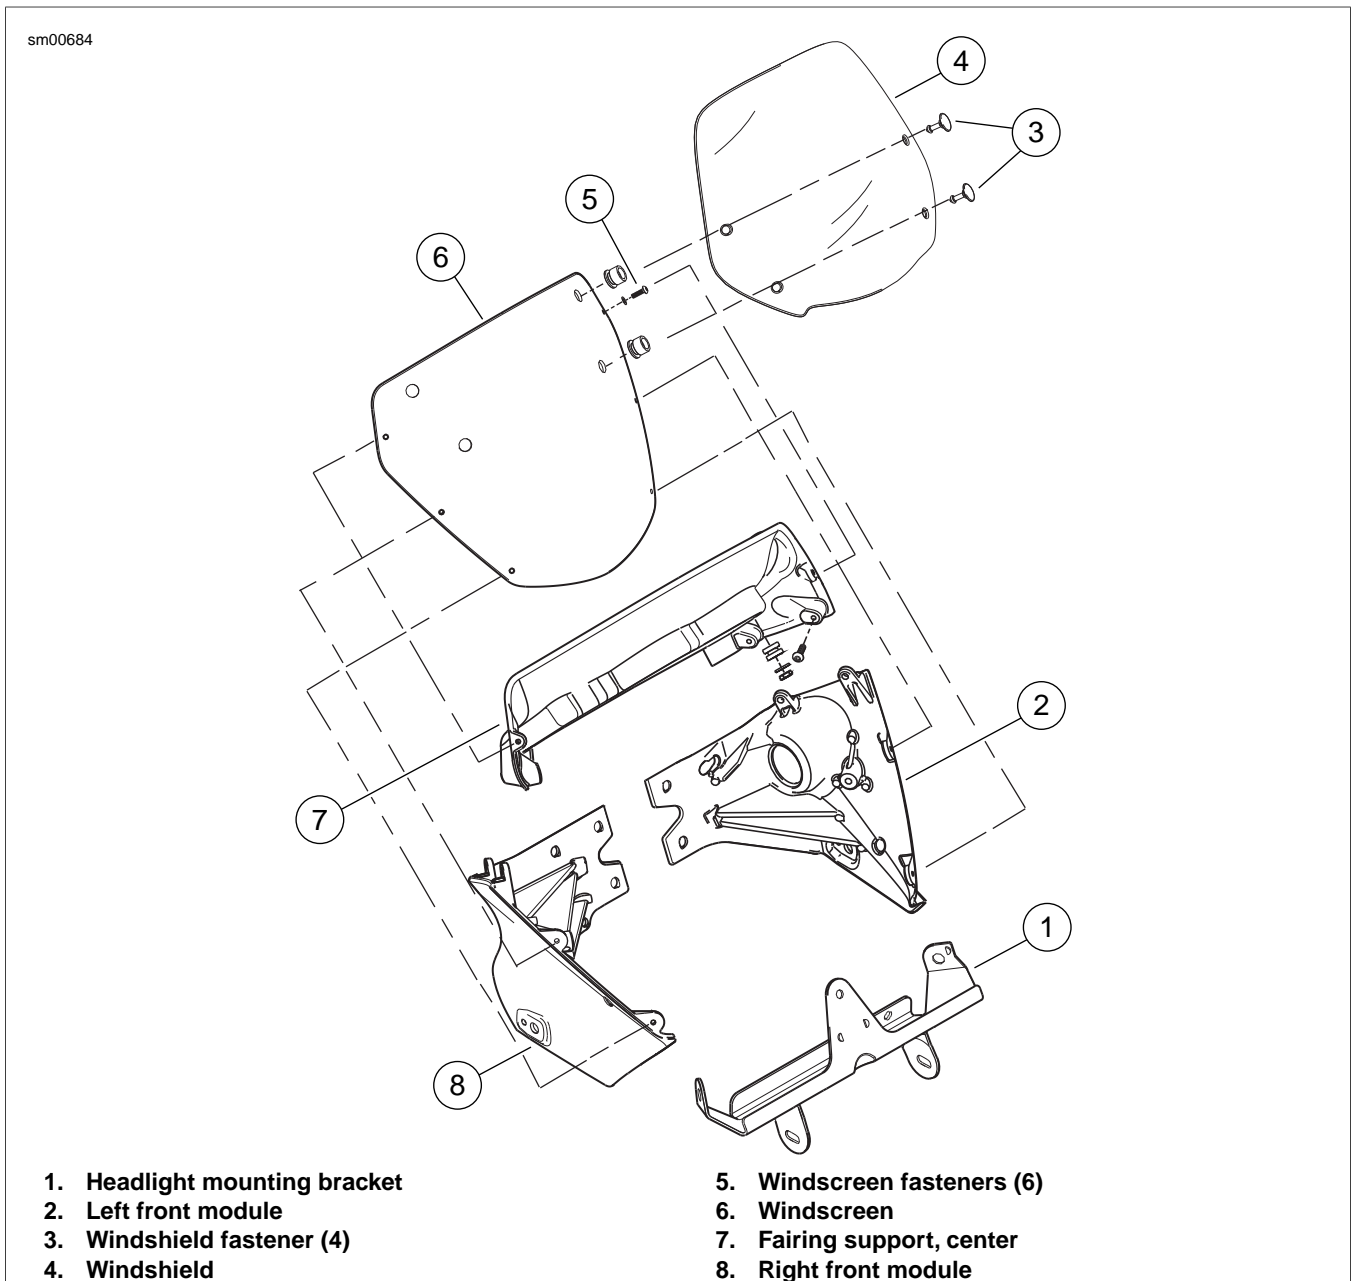

Figure 2-183. Windshield and Windscreen: Ulysses XB12X
- See Figure 2-183. The windscreen fastens into the left and right front modules (2, 8) and the center fairing support (7).
1. Remove windshield (4) by pulling loose from windscreen (6).
2. Remove six windscreen fasteners (5).
3. Remove windscreen (6).
1. See Figure 2-183. Position windscreen (6) onto left and right front modules (2, 8) and the center fairing support (7).
3. Install windshield (4) by pushing into place. Pull on windshield when installed to verify attachment.